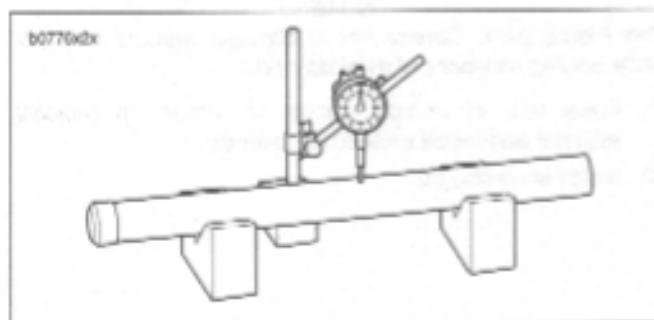
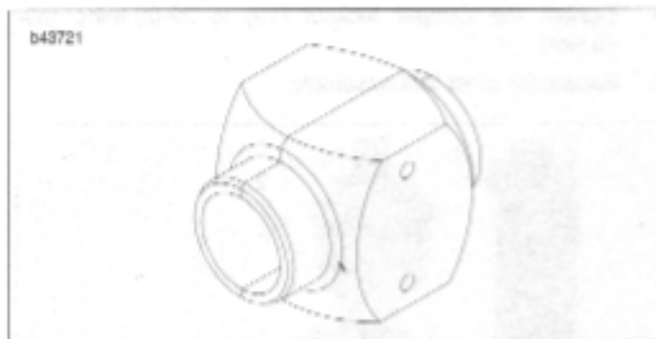
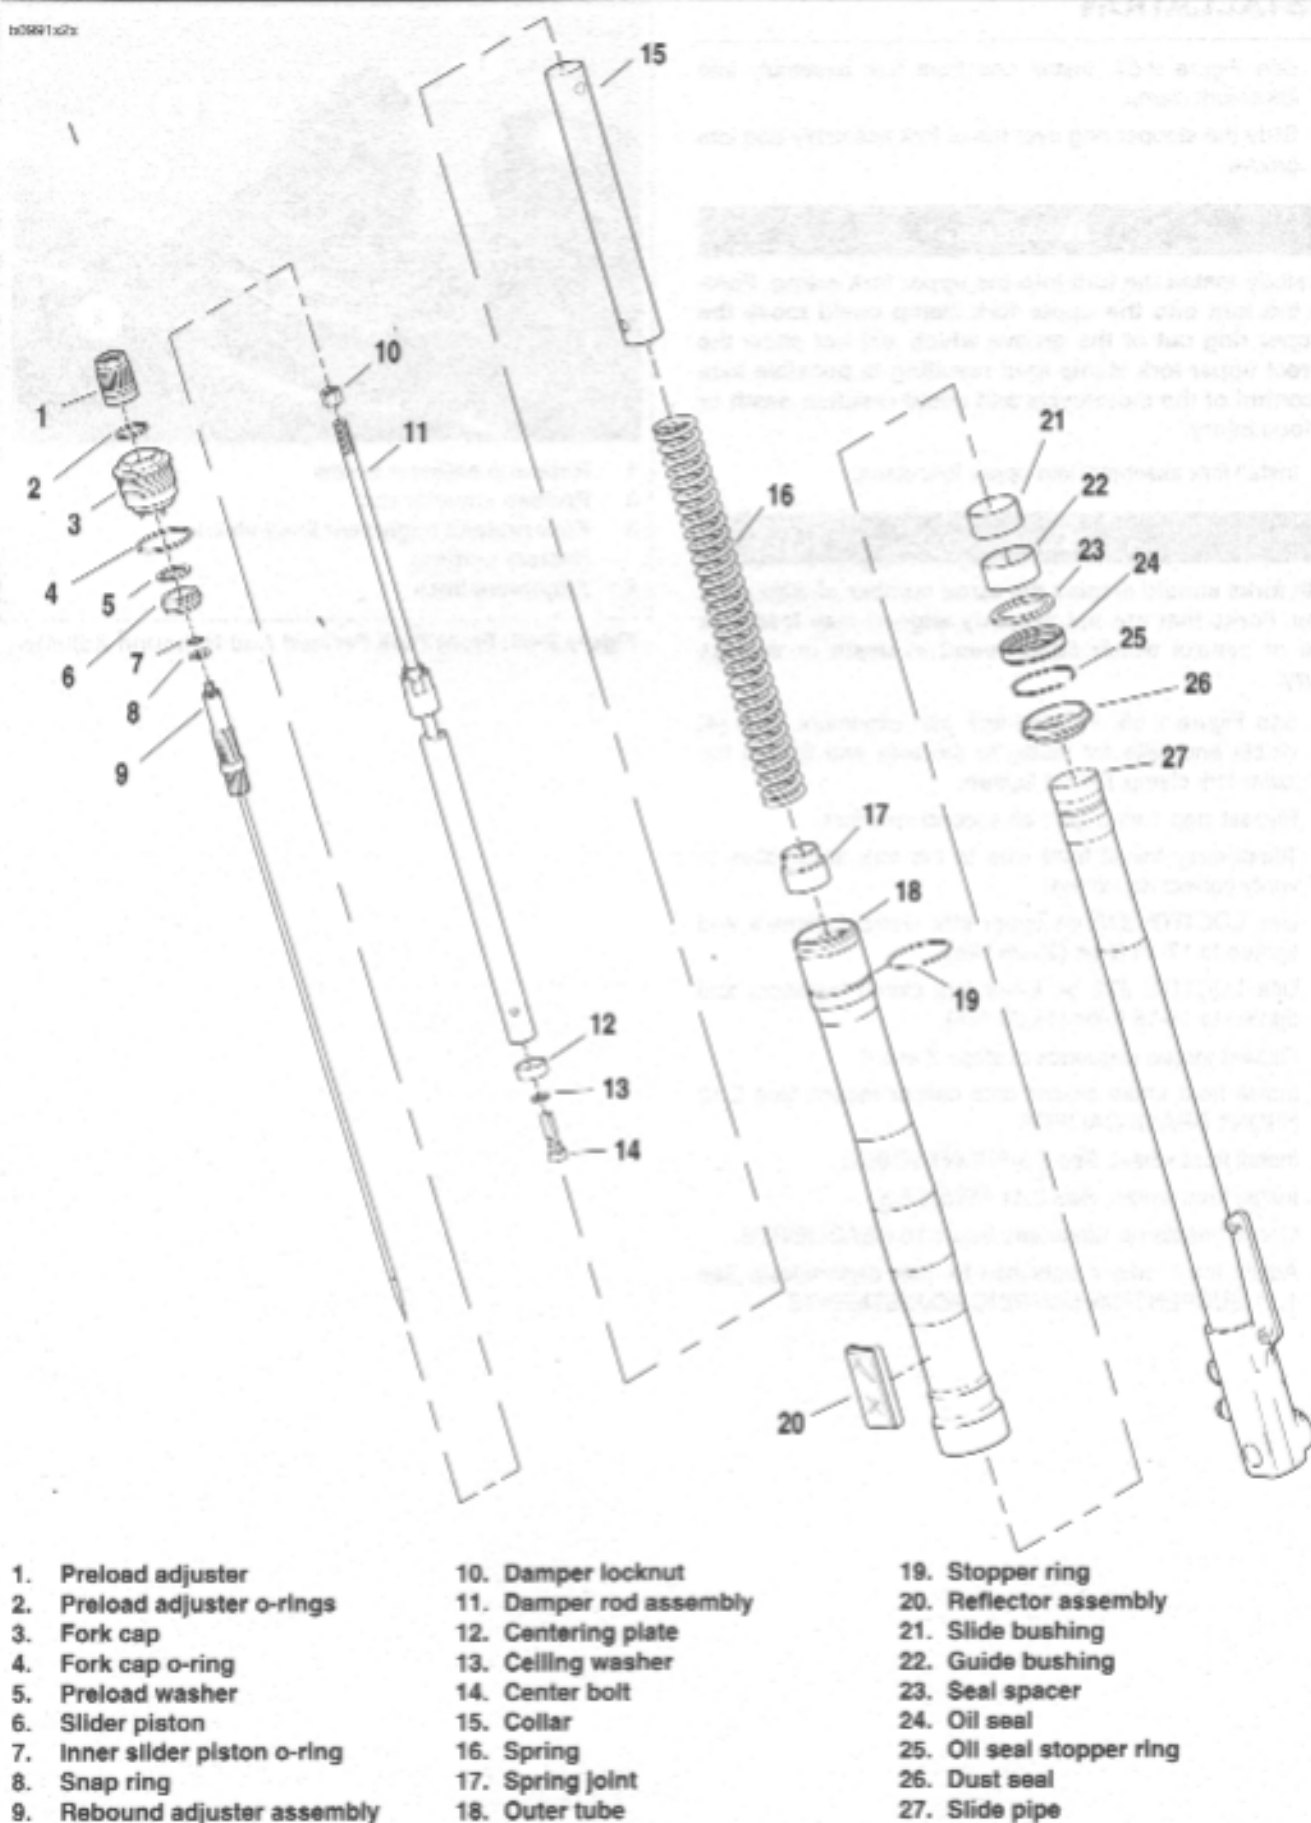

Figure 2-62. Pipe Runout
Figure 2-64. Fork Seal Driver
Figure 2-67. Front Fork Assembly
See Figure 2-67. Disassembly of damper rod is not required unless damper locknut (10) has been moved. If damper rod needs servicing refer to the Firebolt Parts Catalog (Part No. 99574-03Y) for kit information.
2. See Figure 2-67. Holding the damper locknut (10), unscrew the rebound adjuster assembly (9) and remove from damper rod assembly (11).
3. Remove damper locknut (10) from damper rod assembly (11).
2. See Figure 2-67. Check the slide pipe (27) and outer tube (18) for score marks, scratches and excessive or abnormal wear. Replace if worn or damaged.
3. Check the slide bushing (21) and the guide bushing (22) for excessive wear or scratches. Replace if damaged or worn.
4. Replace the stopper ring (19) if distorted.
5. Measure spring (16) free length. Replace springs shorter than service wear limit of 9.13 in. (232 mm).
6. See Figure 2-62. Measure slide pipe runout. Replace pipe if runout exceeds the service wear limit of 0.008 in. (0.2 mm).
1. See Figure 2-67. Fully thread the damper rod locknut (10) on to damper rod (11) clockwise till it lightly bottoms.
1. See Figure 2-67. Wrap the end of the slide pipe (27) and the slide bushing channel with tape to avoid damaging the oil seal lip when installing.
2. Install a **new** dust seal (26) and stopper ring (19) onto the slide pipe (27).
3. Coat the sealing lips of the **new** oil seal (24) with fork oil or sealing grease and install onto the slide pipe with its marked side facing the dust seal (26).
5. Install the seal spacer (23), the guide bushing (22) and the slide bushing (21) onto the slide pipe (27).
6. Coat the slide bushing (21) and the guide bushing (22) with fork oil.
7. See Figure 2-67. Drive the guide bushing (22) with the seal spacer (23) and oil seal (24) into position in the outer tube using a FORK SEAL DRIVER (Part No. B-43721). See Figure 2-64.
10. See Figure 2-67. Install the centering plate (12) onto the damper assembly (11) and insert the damper assembly into the slide pipe (27).
11. Replace the sealing washer (13) and center bolt (14) (metric). Tighten the center bolt to 22-30 ft-lbs (30-40 Nm).
18. See Figure 2-67. Install spring (16) and collar (15).
3. Install one front fork assembly into lower fork clamp (8).
4. See Figure 2-67. Slide the stopper ring (19) over top of fork assembly and into groove.